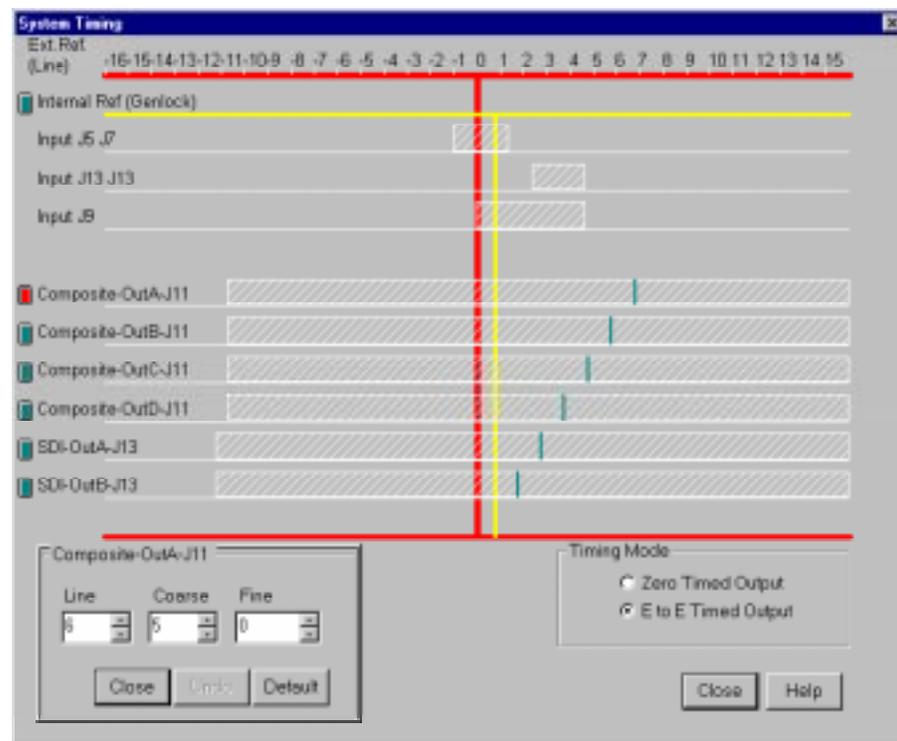

Figure 16. System Timing dialog box, E to E timed
2. Click any button to the left of the internal reference (genlock) or video output signal name and the timing edit box appears in the bottom left of the System Timing dialog box (see Figure 16 which shows the dialog box when the outputs are E to E timed).